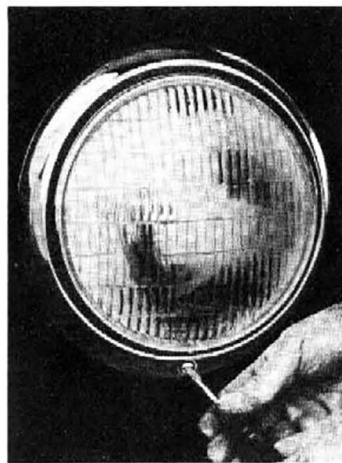

Fig. 48—Remove Headlamp Door Rim
1. Remove headlamp door rim. (See Fig. 48).